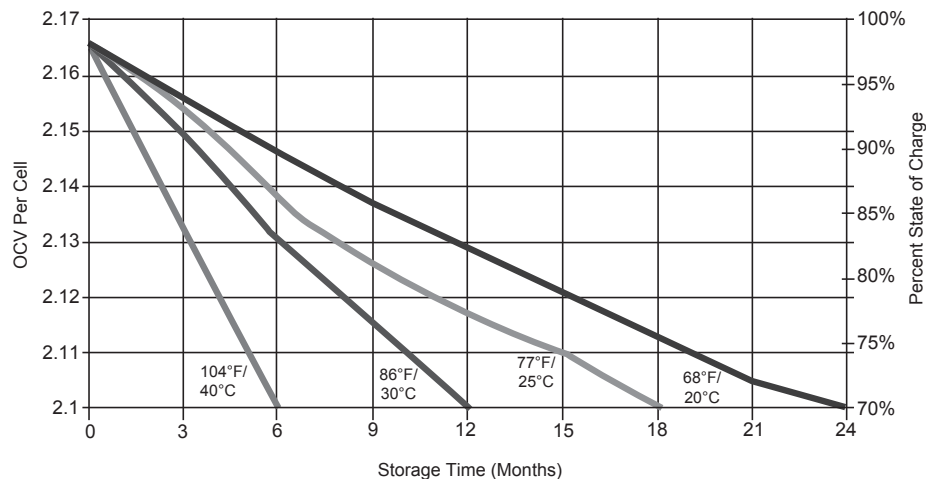

Fig. 1, Capacity vs. Storage Time
- It is important to track open circuit voltage which is related to the density of the electrolyte. If the open circuit voltage is lower than 12.6V or the batteries have been stored beyond the limits shown in Figure 1, the batteries should be charged to avoid damage caused by self-discharge.